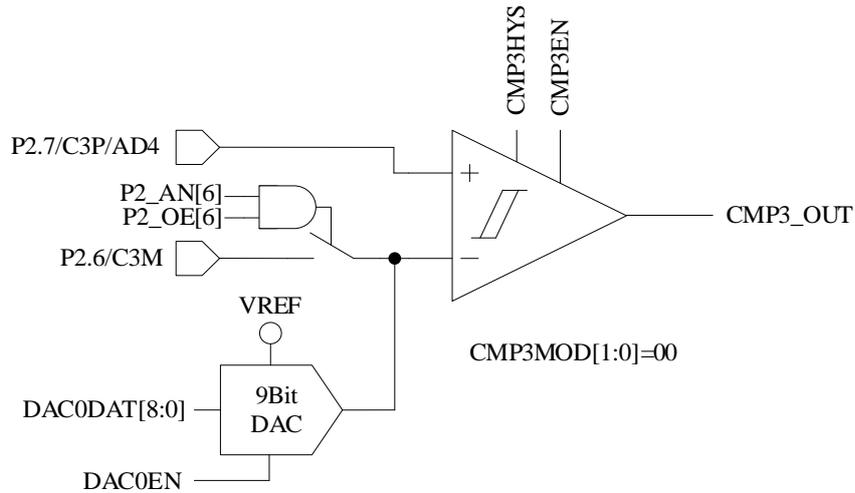

Figure 31-2 Single-comparator Input Mode
- When CMP_CR1[CMP3MOD] = 00, CMP3 works in Single-comparator Input Mode. The connection of input and output pins are shown in Figure 31-2.